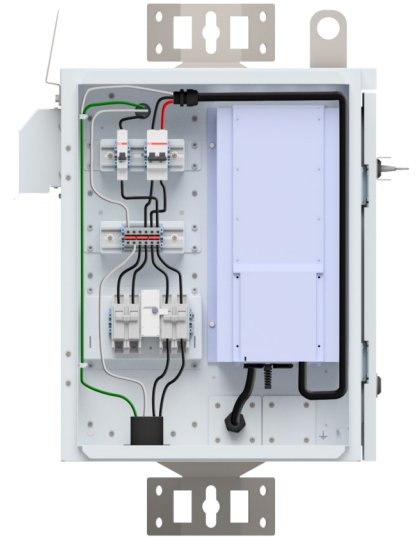

Figure 11 Chamber wiring
- After the dead front covers are removed, open the necessary insulators. Wiring chamber will look like as shown in figure 11.